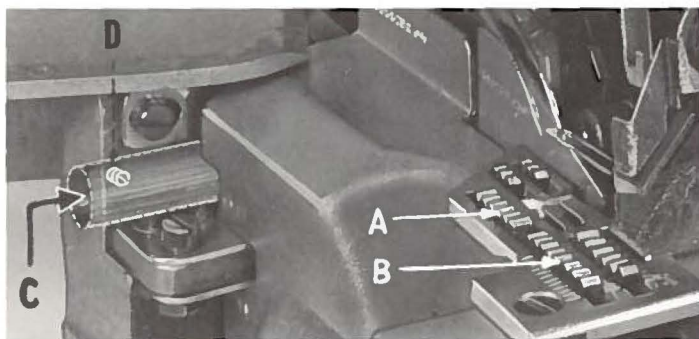

Fig. 11
Assemble the main and differential feed dogs (A, B, Fig. 11). Main and differential feed dogs should be leveled with respect to the throat plate by rotating feed tilting adjusting pin (C). This pin raises or lowers the back end of the feed bar.